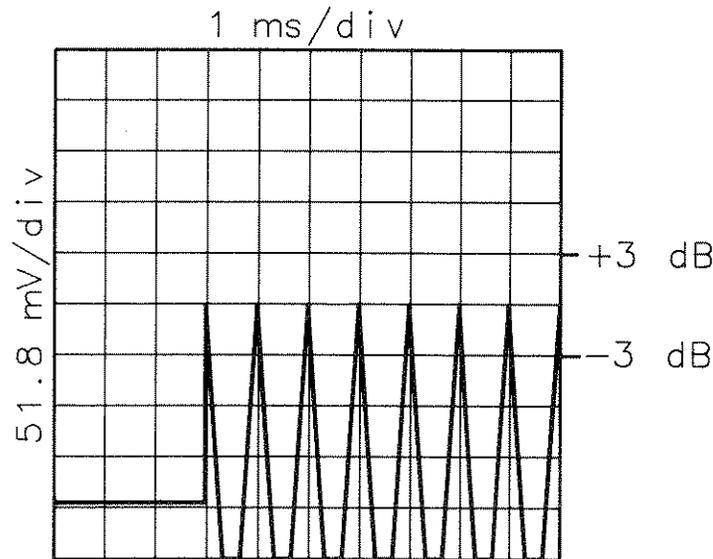

Figure 4-16. Amplitude Recovery Measurement Waveform
27. Press the digitizer (STORE M1) key on the oscilloscope and step the Signal Generator to the stop frequency with the FREQ INCREMENT key. The oscilloscope should digitize the switching waveform as the frequency changes. The waveform should now look like that shown in Figure 4-16.